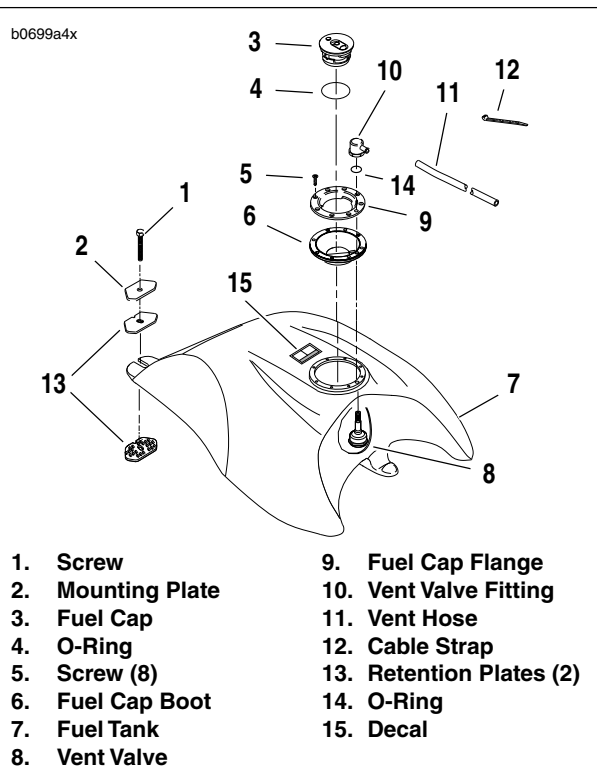
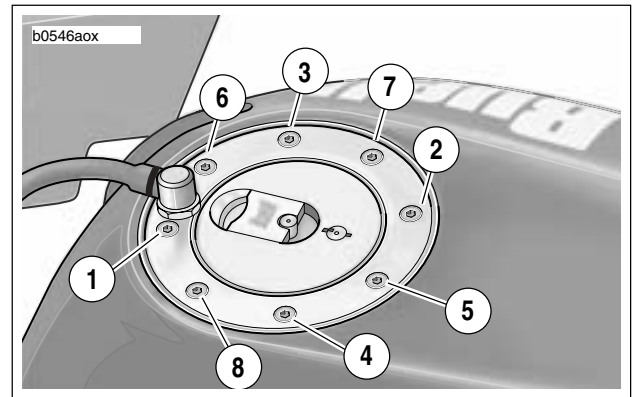

Figure 4-27. Fuel Tank
Figure 4-29. Tightening Flange
See Figure 4-27. The fuel tank (7) is vented through a vent valve assembly (8) within the tank. At the top of the tank, a vent hose (11) connects to the vent valve fitting (10). The fuel tank vent hose is then cable strapped to a left side frame tube.
4. See Figure 4-27. Remove cable strap (12) holding vent hose (11) to vent valve fitting (10). Disconnect vent hose from vent valve fitting.
6. See Figure 4-27. Remove fuel tank screw (1), two retention plates (13) and mounting plate (2).
2. See Figure 4-27. Remove fuel filler cap (3) and O-ring (4).
3. Remove screws (metric) (5) from fuel cap flange (9) and remove fuel cap flange.
5. Remove fuel cap boot (6).
7. Insert fuel cap boot (6) being sure to align the holes in the boot with the proper holes in the fuel tank.
9. See Figure 4-29. Install fuel cap flange with screws and tighten screws to 22-25 **in-lbs** (2.5-2.8 Nm) in the order shown.
10. See Figure 4-27. Replace fuel filler cap (3) with **new** O-ring (4).
1. See Figure 4-27. Carefully raise the back of the fuel tank and place a retention plate in position on the frame. Make sure shorter straight side of retention plate faces to rear of vehicle.
3. See Figure 4-27. Place the remaining retention plate and mounting plate in position on top of the fuel tank rear mounting projections. Make sure shorter straight side of both retention plate and mounting plate face to rear of vehicle.
4. See Figure 4-27. Install screw (1) and tighten to 18-23 ft-lbs. (24-31 Nm).
5. See Figure 4-27. Cut cable tie (12) holding vent hose to fitting and remove vent hose from fuel tank.
4. See Figure 4-27. Install new O-ring in groove on bottom of fitting.
- See Figure 4-27. Attach vent hose to nozzle on vent valve fitting with **new** cable tie.